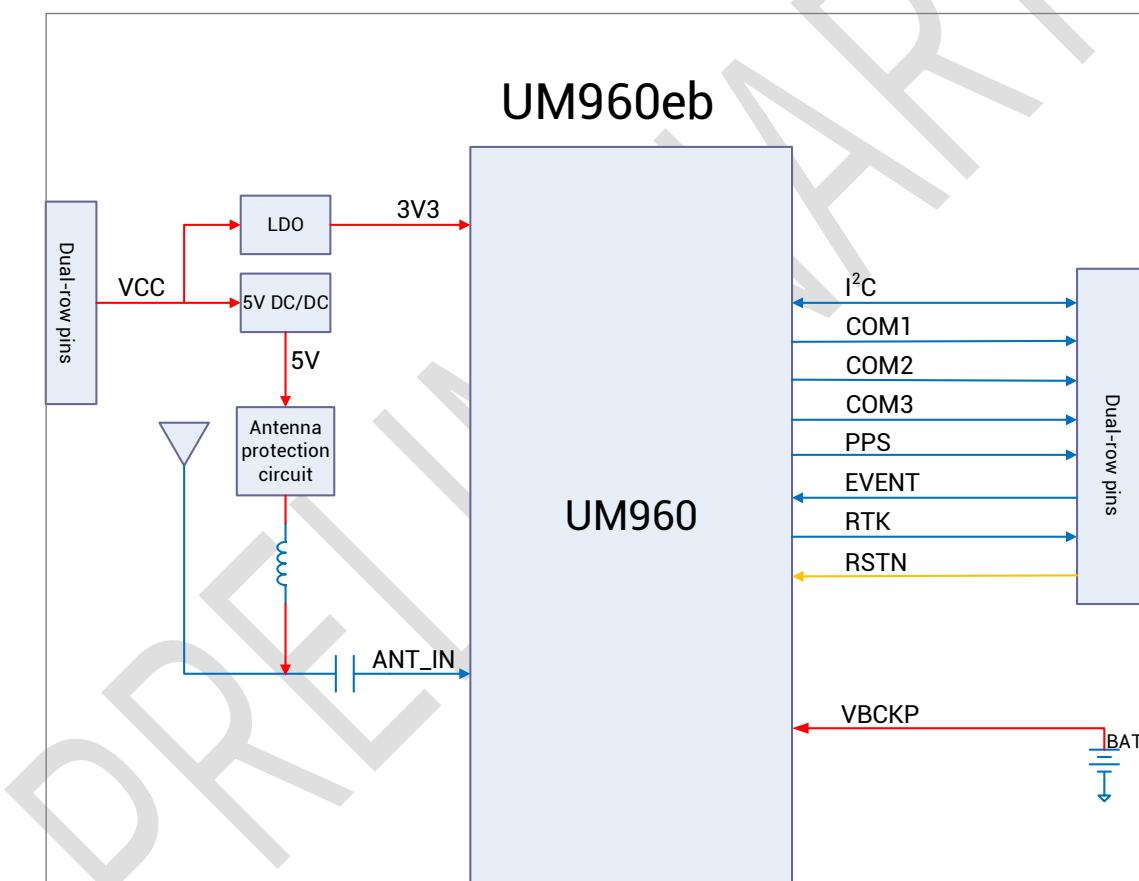
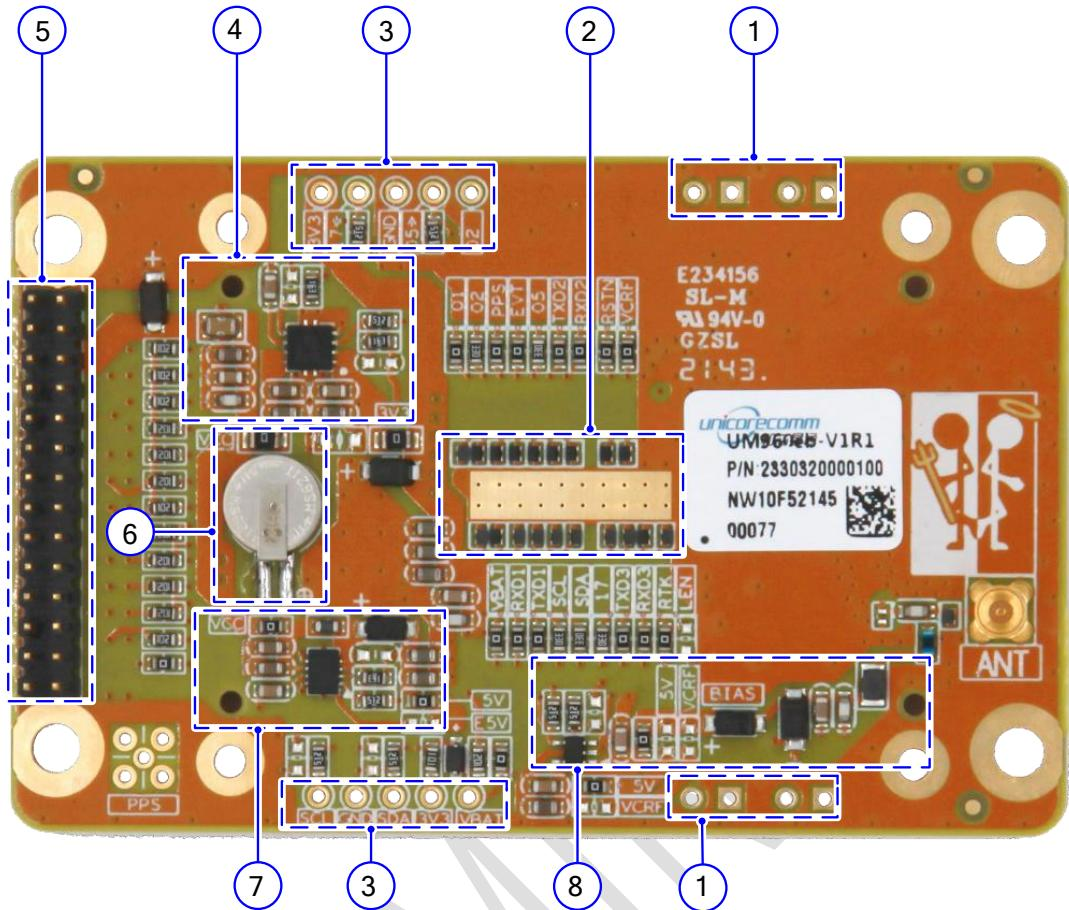

Figure 1-1 UM960eb Block Diagram¹
Figure 1-3 Bottom View of UM960eb
- ☞ The schematics of the evaluation board can be used as the reference design for the UM960 and UM960L. Figure 1-1 to Figure 1-3 take UM960 as an example of the module to introduce.